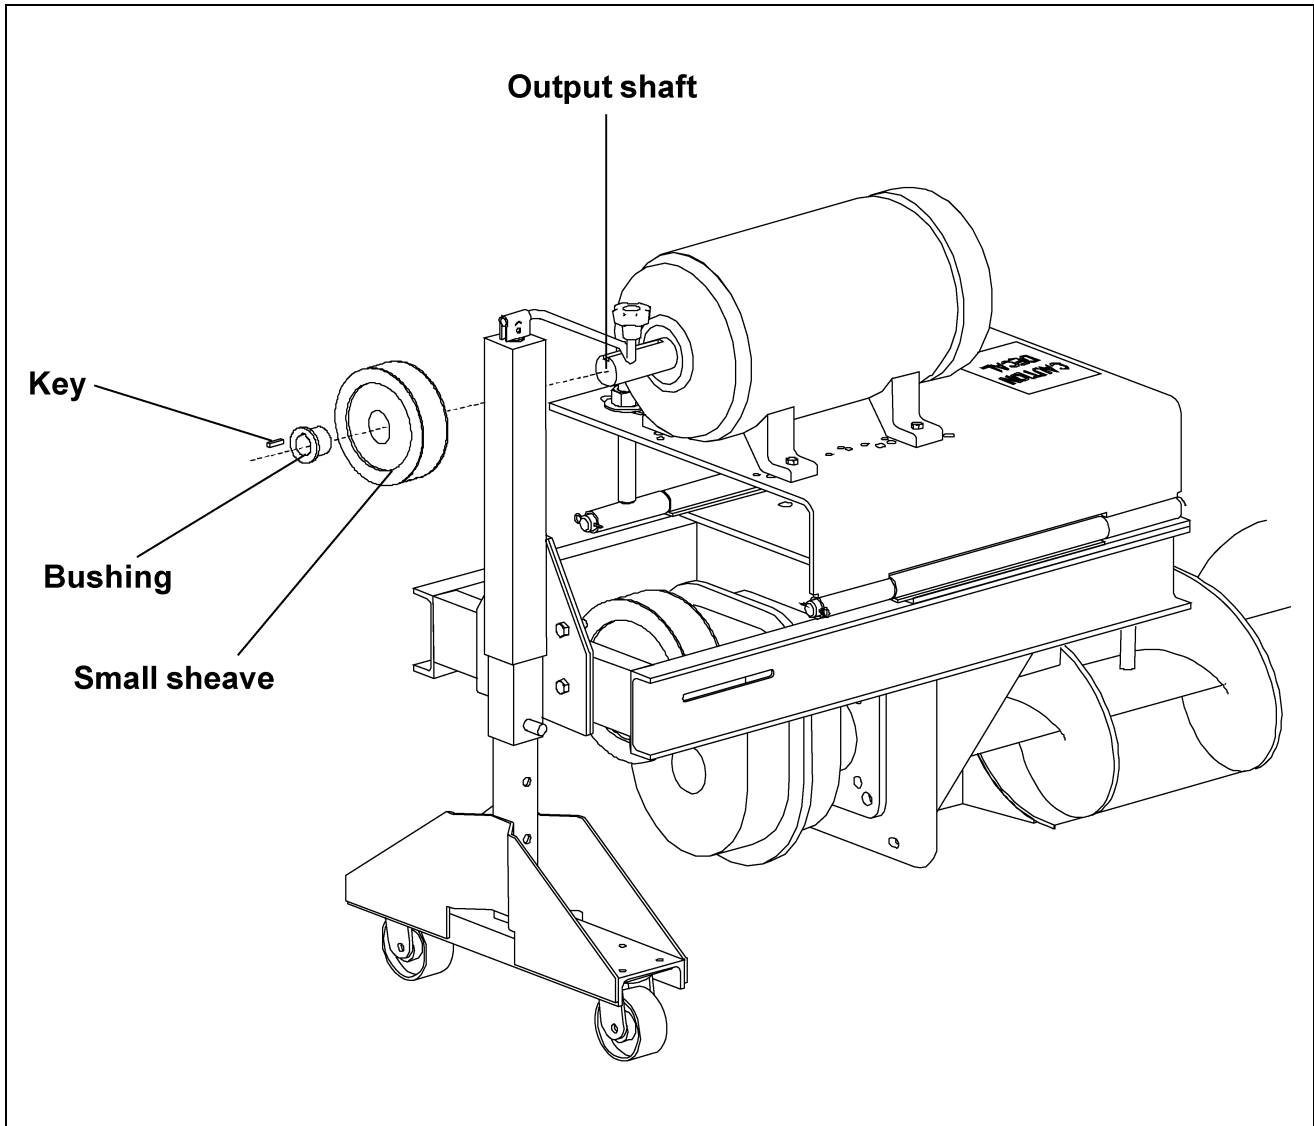

Figure 5X
D. Slide the bushing and small sheave onto the motor shaft with a key. (See Figure 5X.)
E. Align the sheaves with a straight edge to assure proper alignment and tighten the screws on the bushings. (See Figure 5X.)